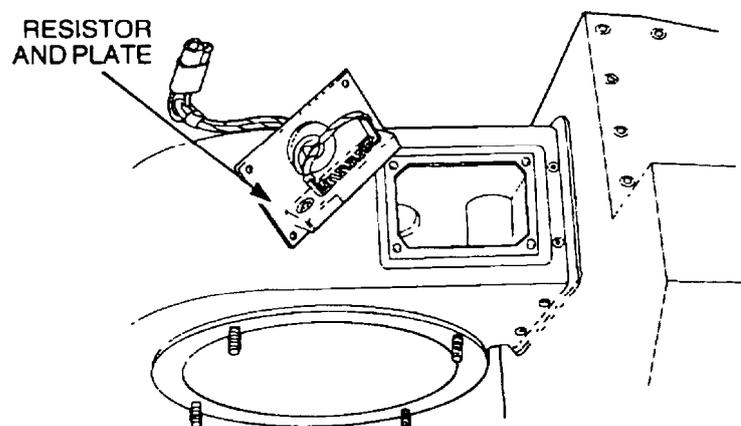

Figure 109 Resistor and Plate Removal
- a. Using a suitable drill, remove the rivets securing the resistor plate to the case and withdraw the resistor and plate assembly (Figure 109).